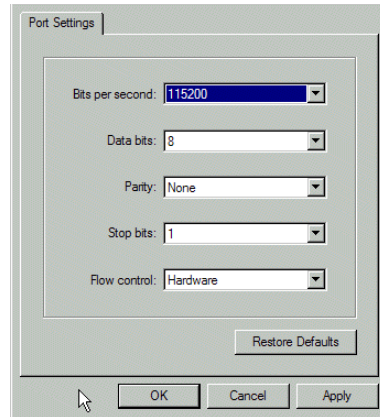

Figure 17: COMn Properties dialog box
6. Ensure the **Connect using** field displays COM1 or COM2 (depending on the serial communication port connection to the director) and click **OK**. The COMn Properties dialog box displays, as shown in Figure 17.